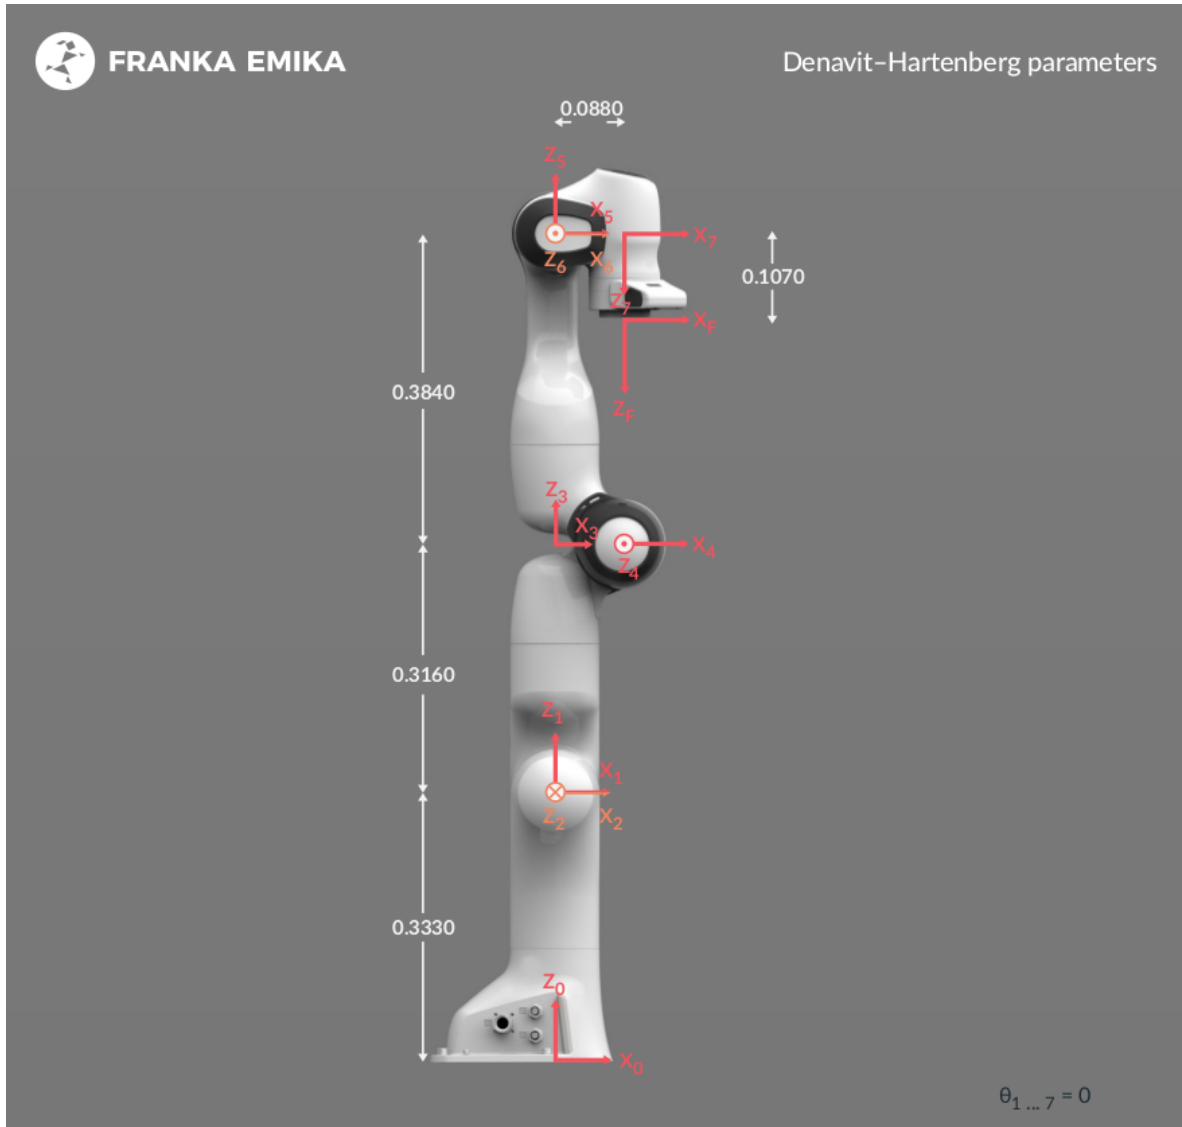

Figure 2: Robot Specifications
- Notice the initial orientation of the end-effectors in the following figures 2 and 3